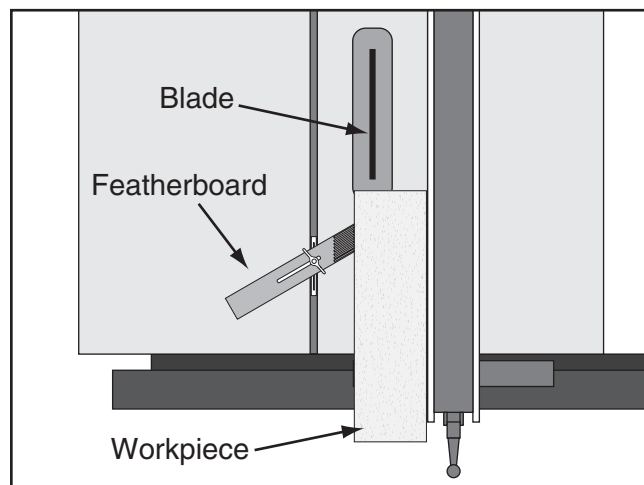

Figure 84. Featherboard installed in miter slot and supporting workpiece for ripping cut.
3. Slide the featherboard miter bar into the miter slot, making sure the fingers slant toward the blade, as shown in **Figure 84**.